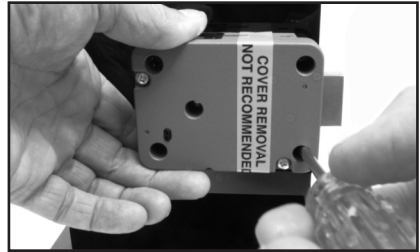

Figure 5 - Tighten Mounting Screws
4. Tighten the lock case mounting screws to hold the lock case in place. (See Figure 5.)
- Tighten the lock case mounting screws to the specified torque on page 1. (Also see Figure 5.)